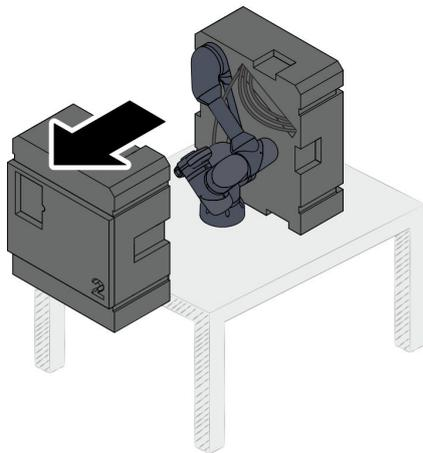

Fig. 47 Remove packaging part 2
11. Remove the transport straps and remove packing part 2 Fig. 47.